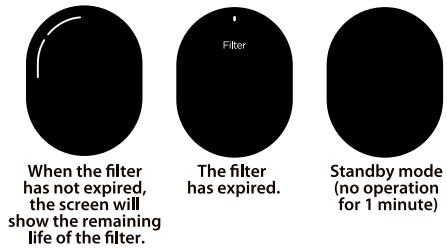

Figure 2
3. Pull the PE-tube out of the fitting (Fig.2).
2. The faucet is turned off: When the RO system is powered on, the screen will show the filter's status. If there is no operation for 1 minute, the screen will switch to standby mode (Fig. 2).